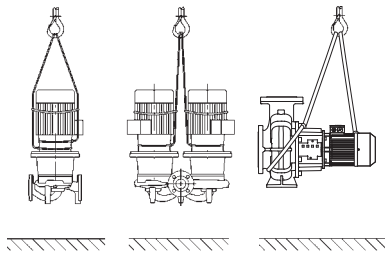

Fig. 6: Transporting the pump
- The transport eyes on the motor are only for guiding while bearing the load (Fig. 6).